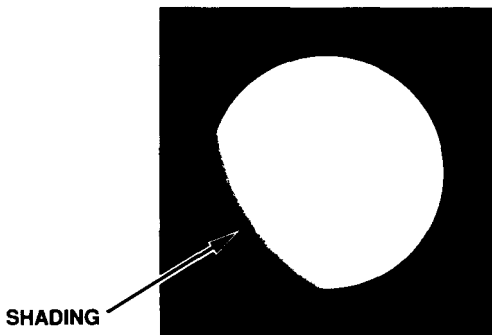

Figure 2-12. Shading.
a. Shading. When properly adjusted, the goggle should present a full circle. If shading is present, you will not see a fully circular image (see Figure 2-12). Shading always begins on the edge and move inward. **Do not** use if shading is present. Replace the goggle.